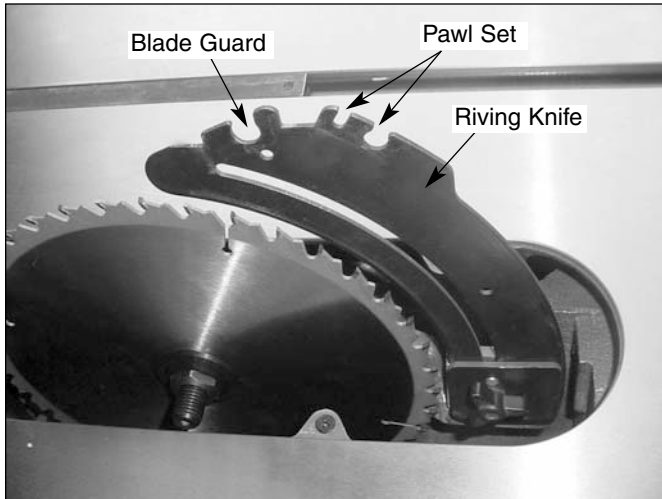

Figure 29 - Blade Guard and Pawl Attachment
- Place the slot of blade guard body over the riving knife. Slot of bushing is placed in the notch indicated in Figures 29 and 30.